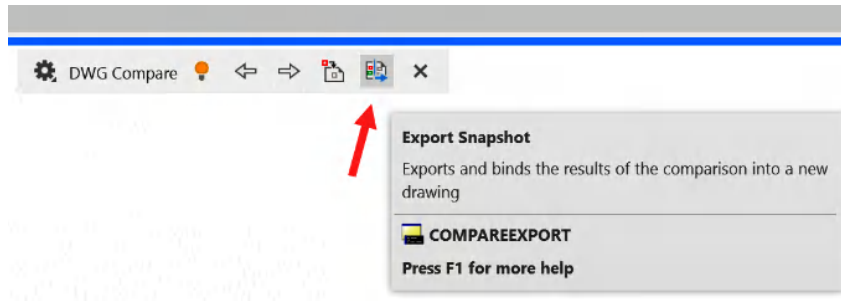

Figure 14.12: The Export Snapshot icon on the DWG Compare toolbar
6. You now need to save a comparison DWG file. To do so, click on the **Export Snapshot** icon on the **DWG Compare** toolbar, as shown in *Figure 14.12*.